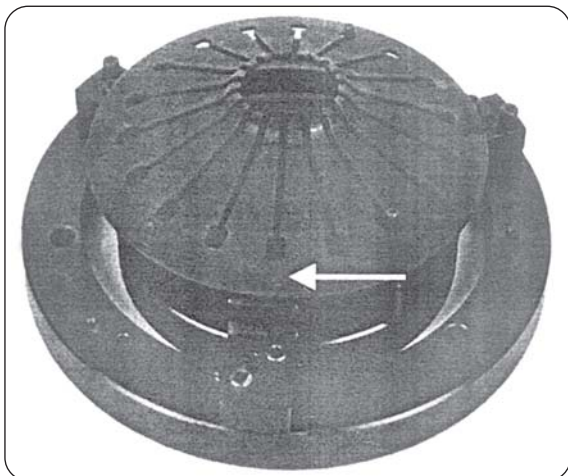

Fig. 6
1. Place the diaphragm over the fixture as shown in the fig.6.